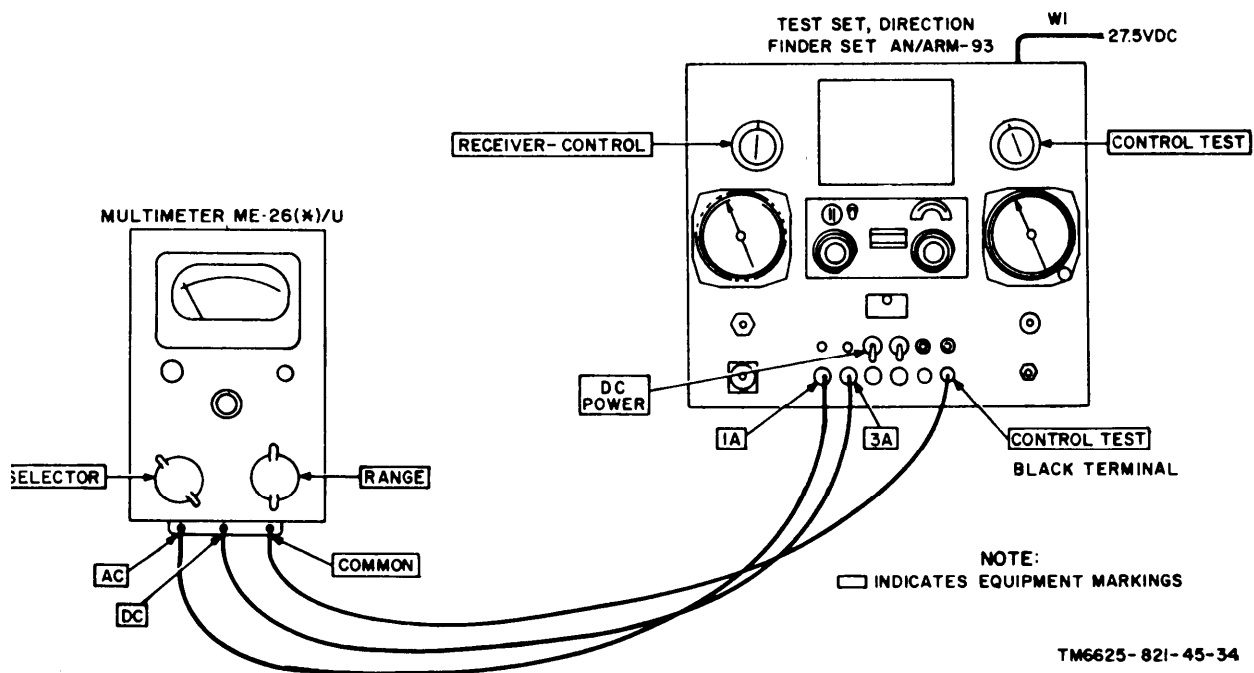

Figure 4-4. Inverter test.
- b. *Test Connections and Conditions.* Connect the test equipment as shown in figure 4-4. The inverter can be installed directly in the test set, or connected by means of cable W4 (part of the test set.).